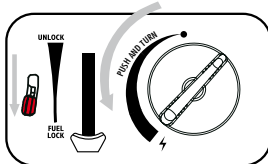

fig. 4
5. Press the gas flow lever (fig.4) down to release the gas.
6. Turn the knob (8) fully to the ignition position until it clicks. (fig.4) Repeat this action until burner ignites.